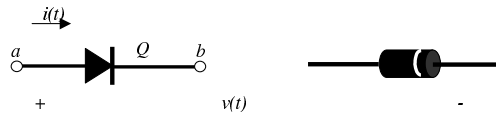

FIGURE 5. Diode
3.3. What is a light-emitting diode? A *diode* is a two-terminal semiconductor device. It can be thought of as an electronic valve that only allows current to flow in one direction. The symbol for the diode is shown in the lefthand picture of figure 5. The symbol is shaped like an arrow that indicates the direction in which current may flow. The terminal marked with a positive sign is called the *anode* and the terminal marked with a negative sign is called the *cathode*. The righthand picture depicts the physical device. It looks similar to a resistor except that it has a single band on one end. In a forward biased diode, the current will flow from the end without a band to the end of the cylinder with the band.
When the voltage v is positive and greater than a minimum threshold voltage V_t , then the diode is said to be *forward biased*. A forward biased diode will conduct current i , in the direction shown in the figure. If a diode is not forward biased, then we say it is *reverse biased*. A reverse biased diode will also conduct a current that has the opposite sense of that shown in figure 5. This reverse current, however, will be extremely small so that the forward biased diode is seen as conducting, whereas the reverse biased diode is seen as not conducting.